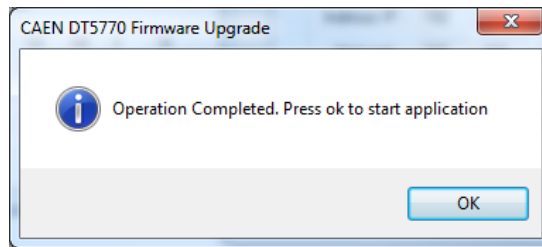

Fig. 12.5: IP update completed message
- 6.Click “Ok” in the pop-up window to restart the program application (see **Fig. 12.5**).